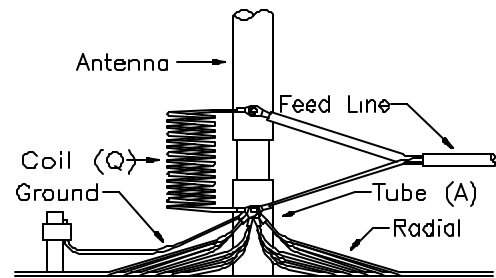

Figure 1
3. Insert a copper ground rod 6 to 12 in (15.2 to 30.5 cm) from tube w/insulator (A). The ground rod should be at least 48 in (1.2 m) in length.
4. Attach radials onto the screw protruding from tube w/insulator (A) along with coil (Q) base matching, braid side of the feed line and bonding wire from the ground rod as shown in figure 1. Secure with the supplied flat washers and hex nuts.